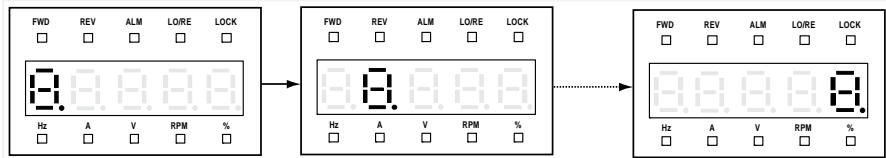

Figure 3-17 Self-testing of LED of YS-P02
1. Press ►► key and ◀◀ key simultaneously for 2—3 seconds, the panel's five LEDs will cyclically display "8." from left to right in turn for three times which is as shown in Figure 3-17.